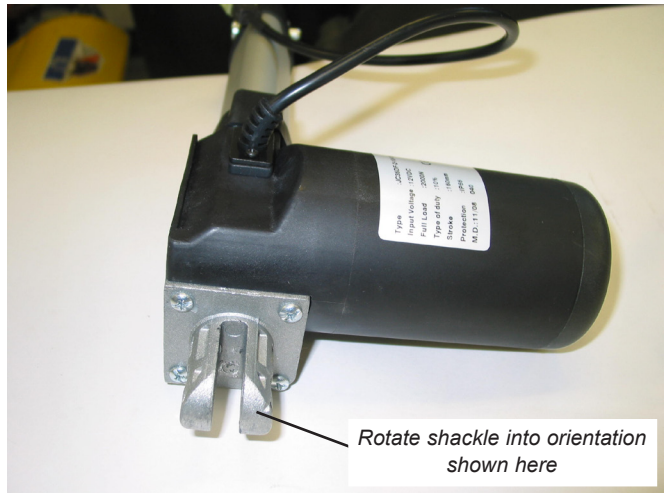

Figure 2
2. Remove Philips head screws on bottom mounting shackle, rotate 90 degrees into orientation shown in Figure 2 and reattach to electric actuator in preparation for mounting to plow base.